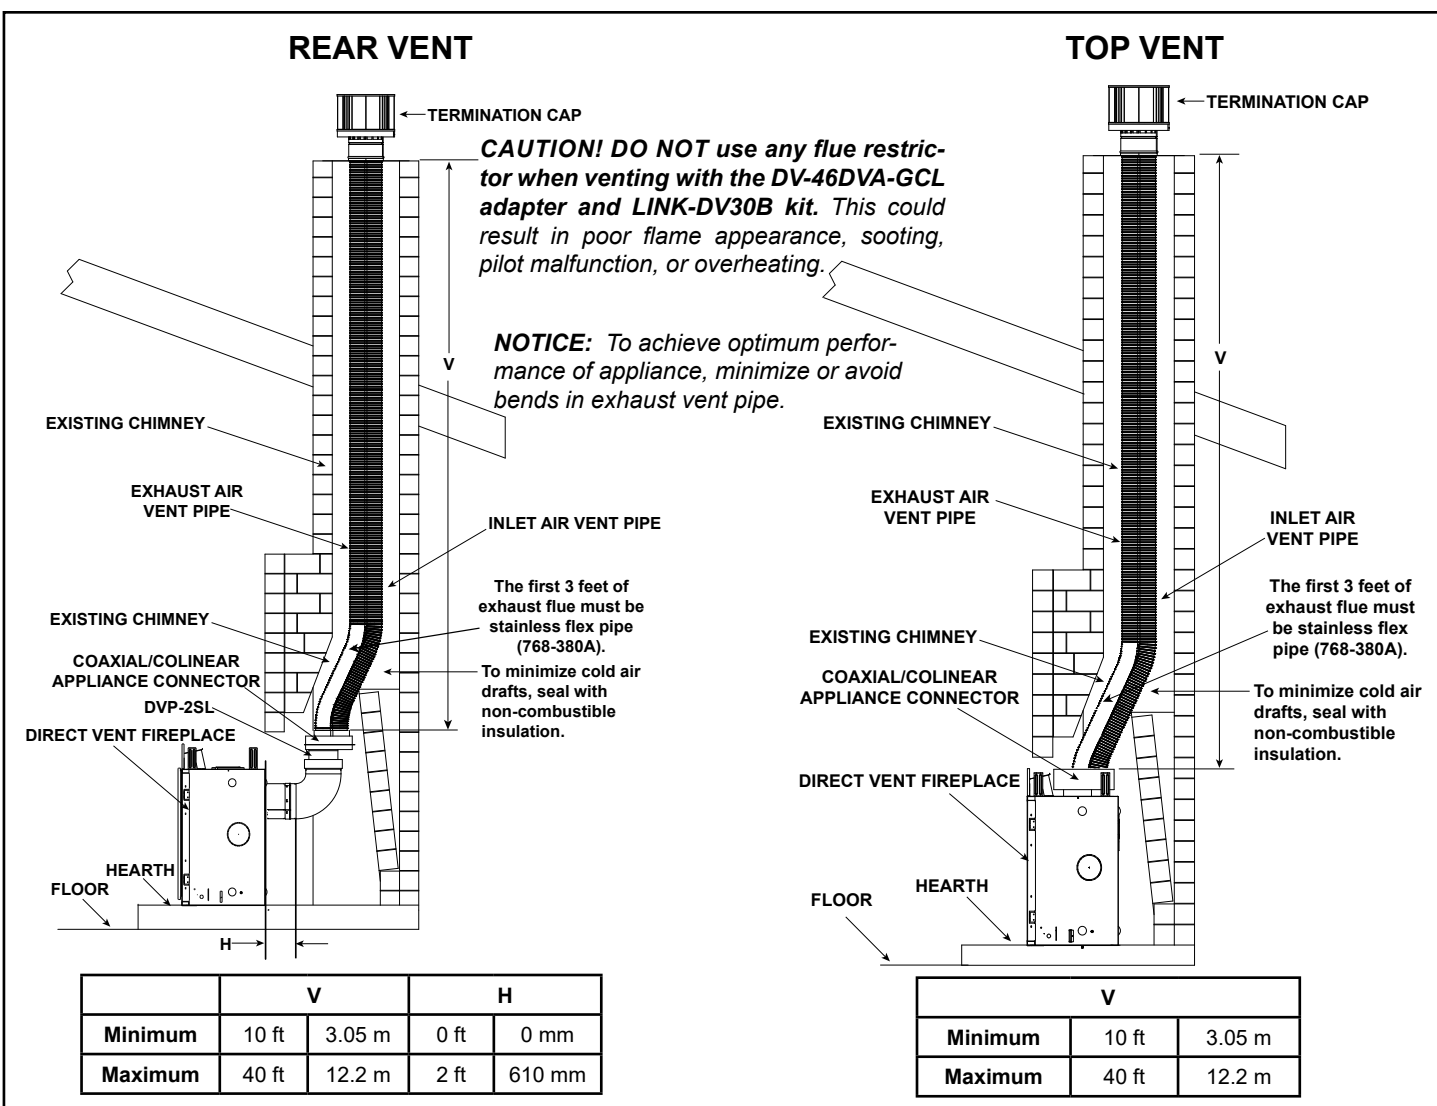

Figure 4.29
- Remove top seal cap and insulation if equipped. See Section 6, "Appliance Preparation." Attach the DV-46DVA-GCL adapter to the appliance starting collar with 3-1/2 in. self-tapping screws. See Figure 4.29.
- Remove the rear seal cap and insulation if equipped. Connect the DVP-2SL adapter to the vertically positioned elbow. Follow installation instructions included with DVP-2SL kit. Secure DV-46DVA-GCL adapter to DVP-2SL with 3-1/2 in. self-tapping screws. See Figure 4.29.